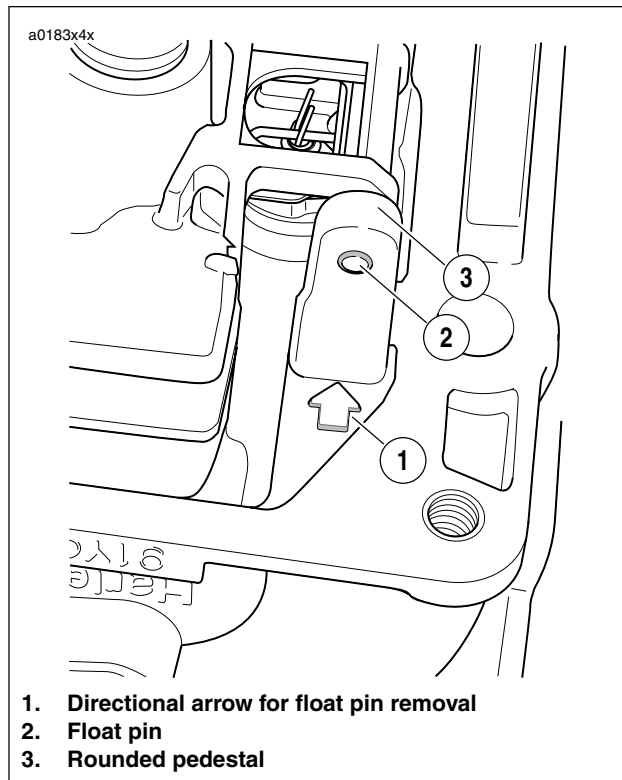

Figure 4-12. Remove Float Pin in Direction of Arrow
2. See Figure 4-12. Using a small center punch and hammer, carefully tap float pin from holes in pedestals. The rounded pedestal has an interference fit to ensure that the float pin is securely held, so always tap out the pin in the direction of the cast-in arrow (that is, from the interference side).